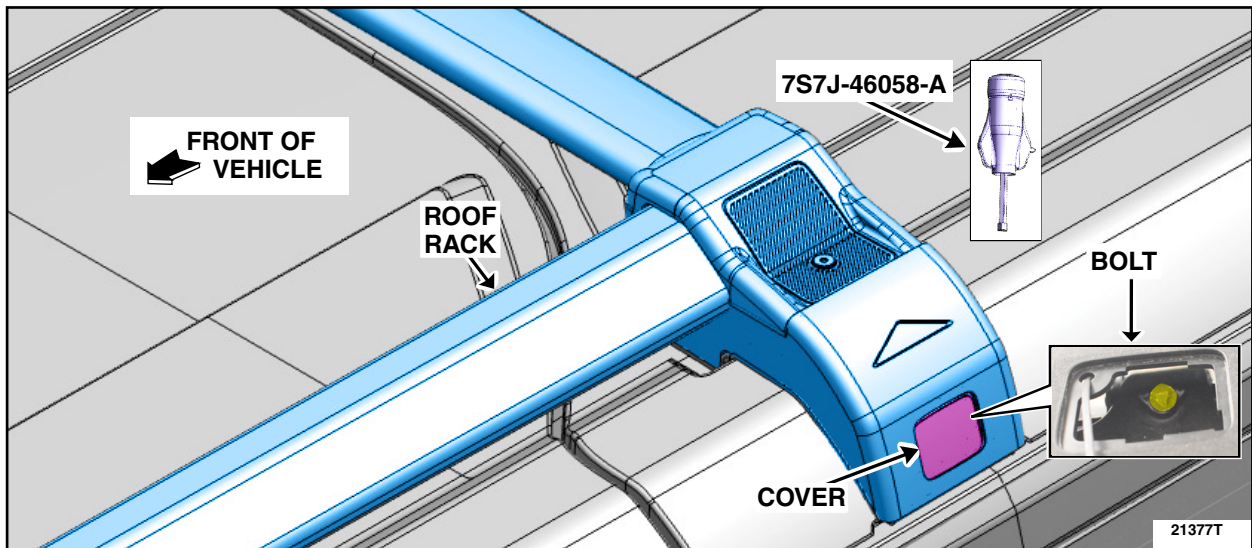

FIGURE 12
4. Remove the rear access cover and using the 7S7J-46058-A tool supplied with the roof rack kit (usually located in the glove box), loosen the bolt from both sides of the roof rack. See Figure 12.